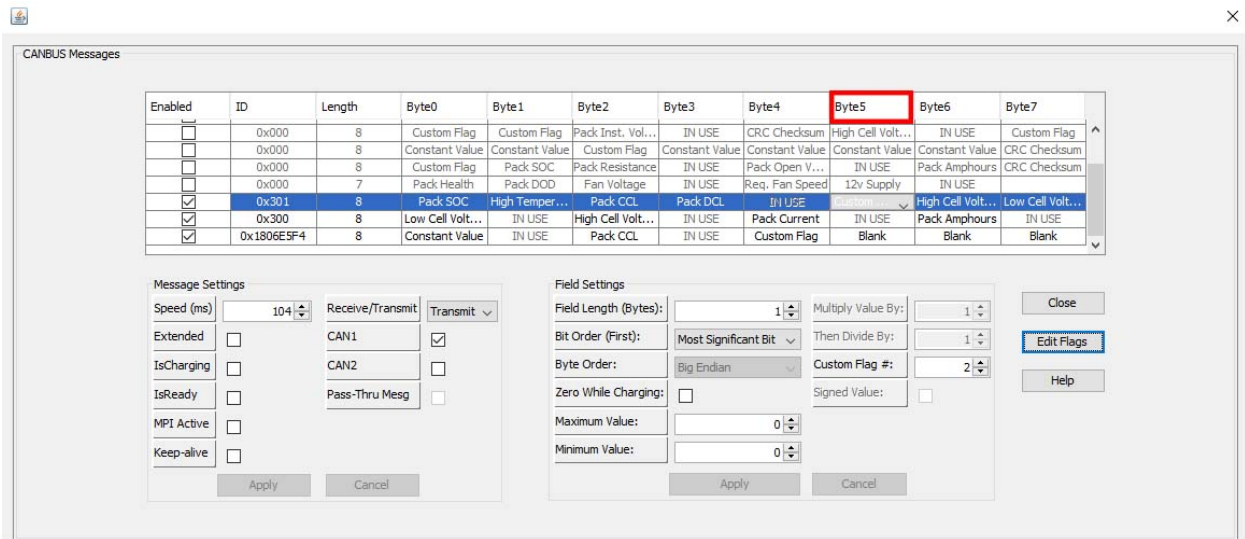
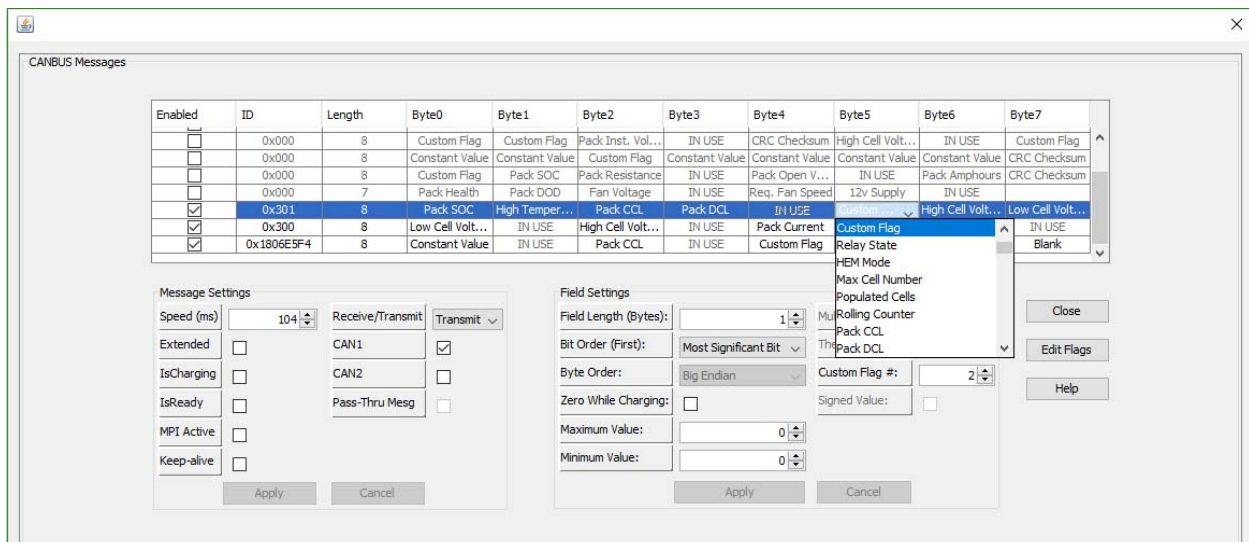

Fig. 30
Fig. 31
14. The following is the settings for **CUSTOM FLAG**. The Byte used is Byte5 in message 0x301. In the dropdown menu for Byte5 make sure that **CUSTOM FLAG** is selected. (Fig. 30 Fig. 31)